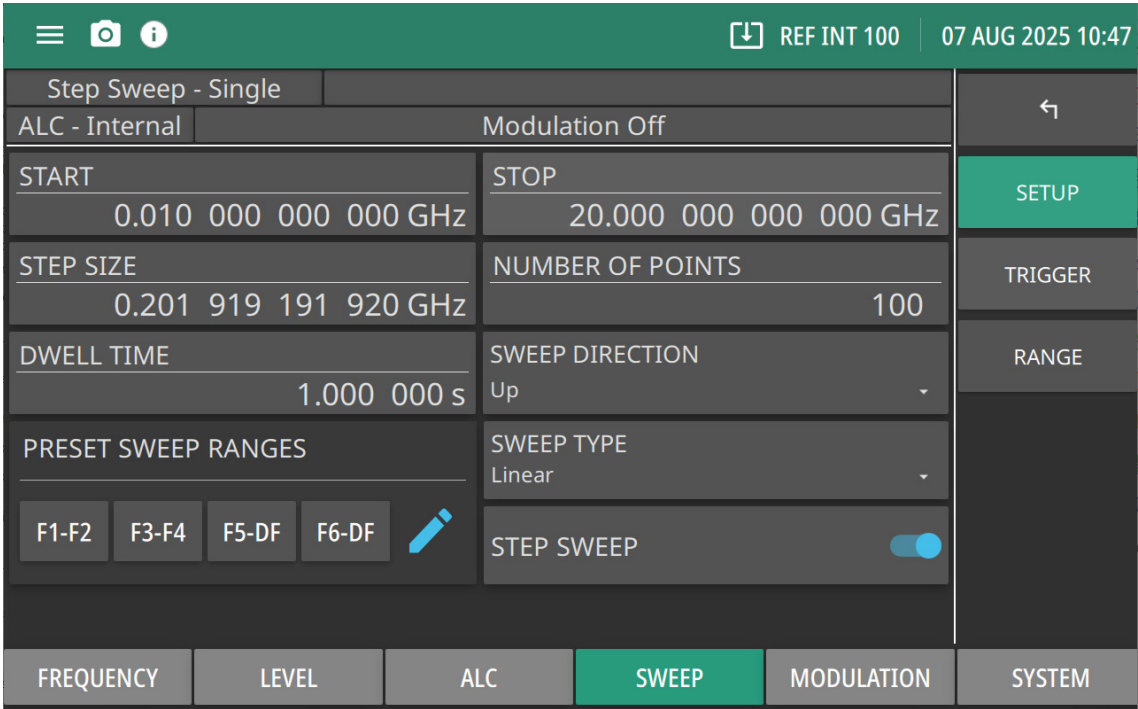

Figure 4-6. Sweep Menu - Step (Trigger)
2. Press TRIGGER | TRIGGER SWEEP as shown in Figure 4-6.